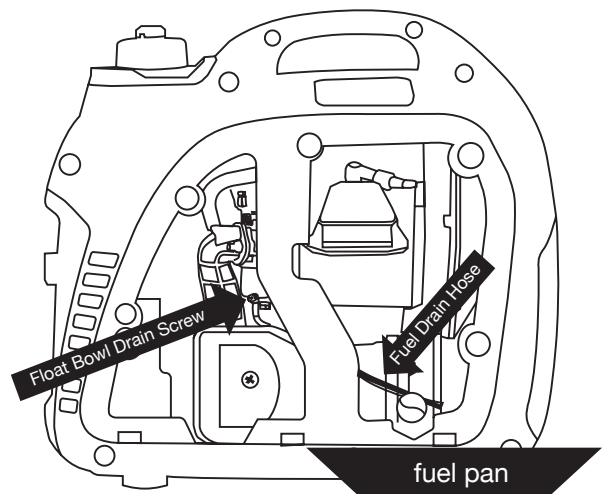

Figure 17: Fuel drain hose
2. Locate the clear plastic hose from the float that is exiting out the bottom of the inverter, and place a suitable container under it to catch the drained fuel (see Figure 17).